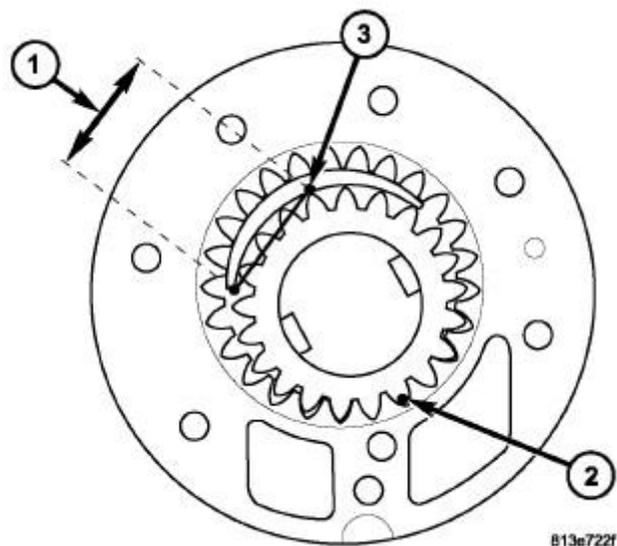

Fig. 178: Oil Pump Tip Clearance
Tip clearance for the inner gear can be checked by moving the inner gear into tight mesh (2) with the outer gear as shown in illustration. Refer to **Fig. 178**. Clearance between the ID of the crescent feature of the housing and the OD of the teeth of the inner gear (3) should then be measured at a point 37 mm (1.45 in.) from the corner of the crescent (1) feature, as shown below.